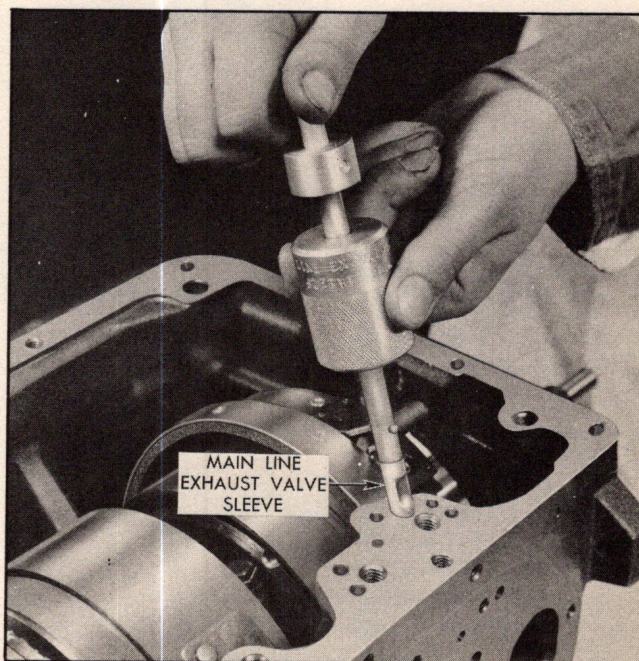

Fig. 37 Removing Main Line Exhaust Valve Sleeve
1. Remove line exhaust valve sleeve from case using tool J-5177 as shown in Fig. 37. (This can be taken out only after the front servo has been removed.)